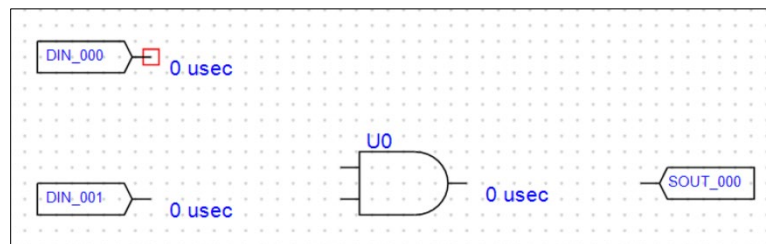

Figure 71 - Start of 1st Segment
- 1) Start a new wire by left clicking on the IO Port pin (Figure 71 - Start of 1st Segment).